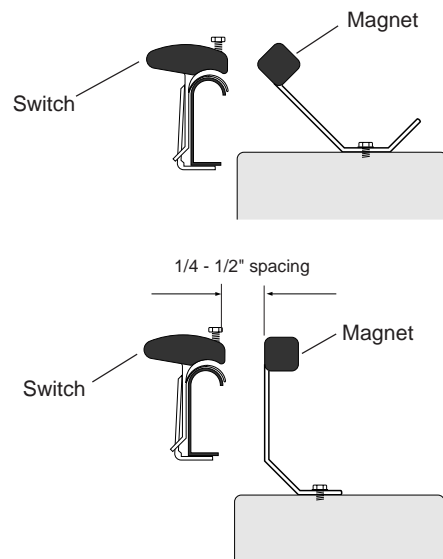

Figure 3 - Magnet Mounting Options
- The magnet must be 1/4 to 1/2 inch away from the switch. See Figure 3.
- The magnet can be attached at two different elevations from the door. See Figure 3.